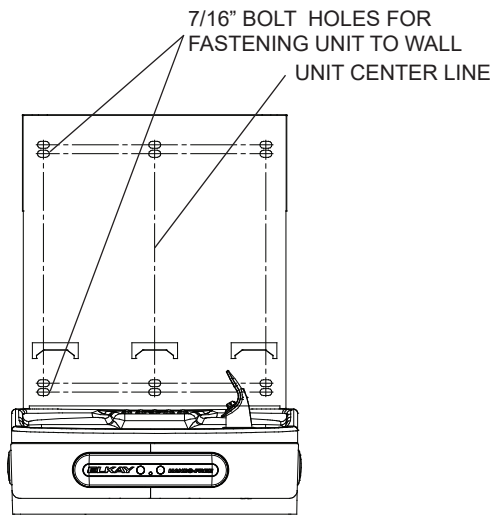

Figure 1
4. Install wall mounting plate to wall using six (6) 7/16" (11.1mm) obround mounting holes (mounting bolts not provided). See Figure 1. Use appropriate fasteners for your wall type.